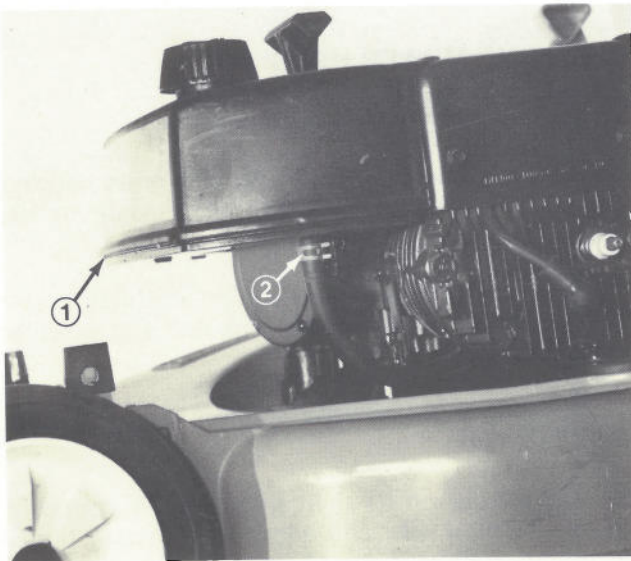

Figure 33
2. Place a clean, shallow drain pan below the fuel tank (Fig. 33).
3. Squeeze ends of clip holding fuel line on fuel tank fitting (Fig. 33). Slide clip down fuel line.